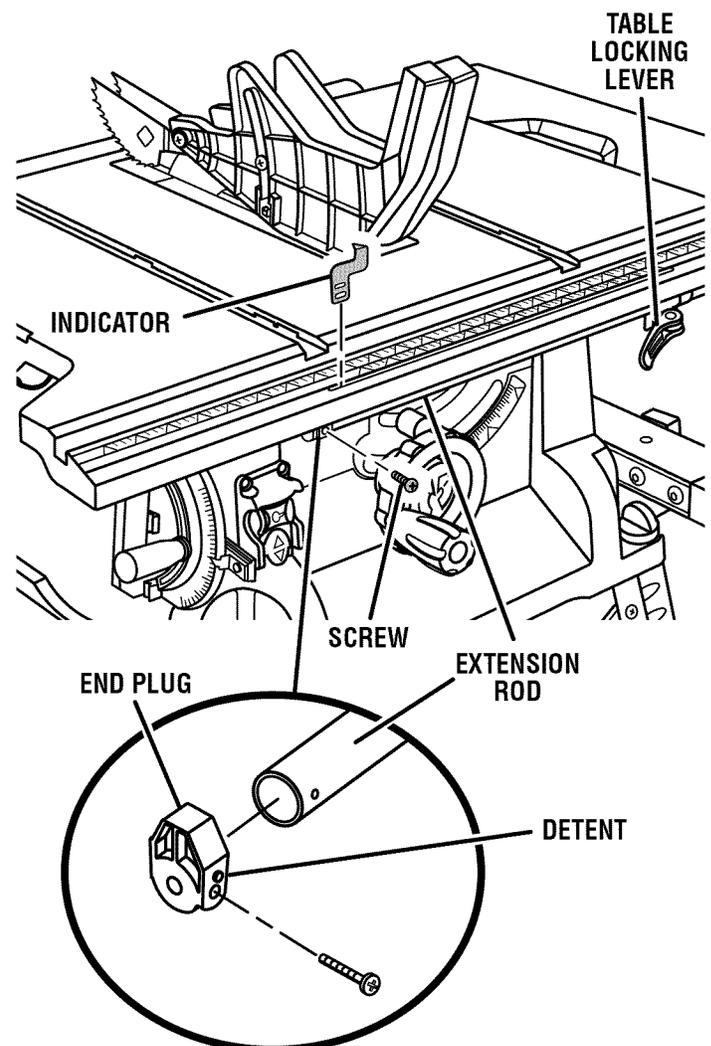

Fig. 18
- Press the end cap over the front extension rod as shown in figure 18.